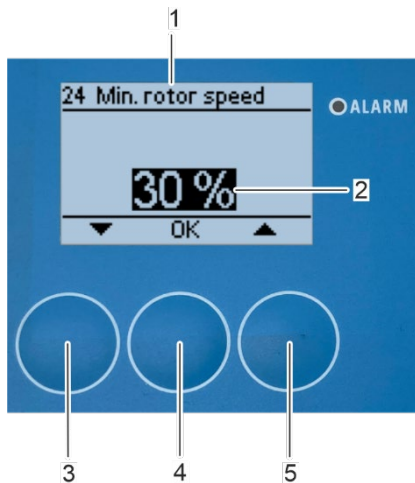

Fig. 132: Set minimum rotor speed
⇒ The "24 Min. rotor speed" submenu appears on the display (Fig. 132/1).
3. Set the minimum rotor speed (Fig. 132/2) with the arrow keys [up] (Fig. 132/5) and [down] (Fig. 132/3).
4. Confirm the setting with [OK] (Fig. 132/4).